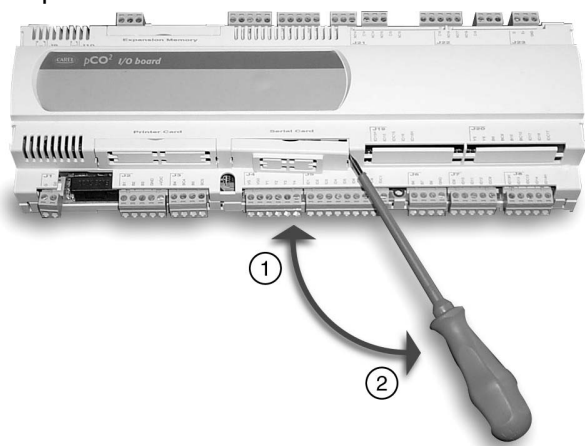

Fig. 1
1. Con un cacciavite, togliere lo sportellino "serial card" del controllore elettronico (vedi Fig. 1);
With reference to Figs. 1÷4, the connection to the pCO²/pCO¹ is performed (without power supply) by following the procedure below:
1. Using a screwdriver, remove the "serial card" hatch from the electronic controller (see Fig. 1);